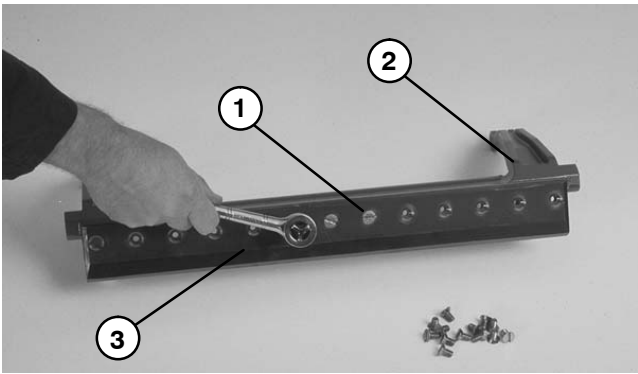

Figure 24
2. Remove screws that fasten bedknife to bedbar using a socket wrench and bedknife screw tool. Discard screws. Remove bedknife from the bedbar (Fig. 24).